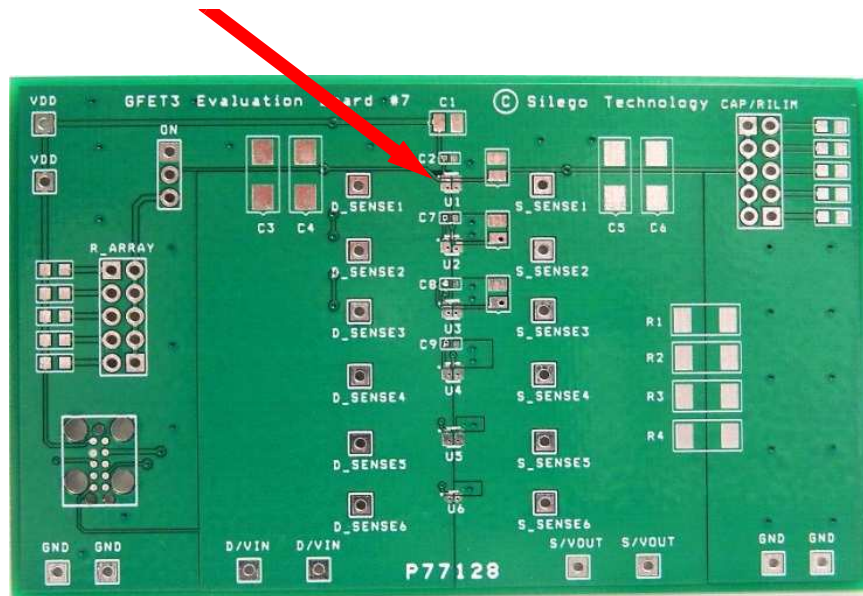

Figure 1. SLG59M1614V Evaluation Board.
2. Since the D/VIN and S/VOUT pins dissipate most of the heat generated during high-load current operation, it is highly recommended to make power traces as short, direct, and wide as possible. A good practice is to make power traces with an absolute minimum widths of 15 mils (0.381 mm) per Ampere. A representative layout, shown in Figure 1, illustrates proper techniques for heat to transfer as efficiently as possible out of the device;
A GreenFET Evaluation Board for SLG59M1614V is designed according to the statements above and is illustrated on Figure 1. Please note that evaluation board has D_Sense and S_Sense pads. They cannot carry high currents and dedicated only for RDS_{ON} evaluation.